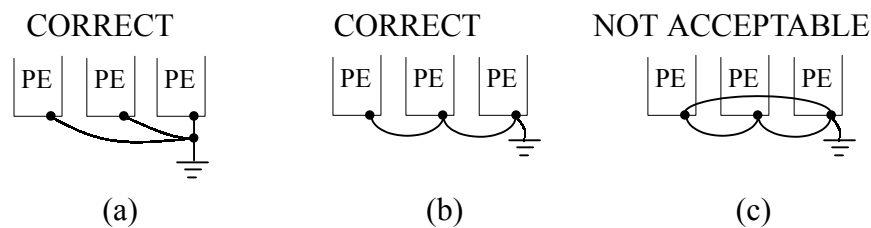

Fig. 3 Grounding of Three 7300PA Units
- (1) Ground resistance should be 100 ohms or less.
- (2) Never ground 7300PA in common with welding machines, motors, and other large-current electrical equipment, or ground pole. Run the ground lead in separate conduit from leads for large-current electrical equipment.
- (3) Use the ground leads which comply with AWG standards and make the sure the length is as short as possible.
- (4) Where several 7300PA units are used side by side, it is preferable to ground each unit separately to ground poles. However, connecting all the ground terminals of 7300PA in parallel while grounding only one of the 7300PA's to the ground pole is also permissible (Fig. 3). Be sure not to form a loop with the ground leads.